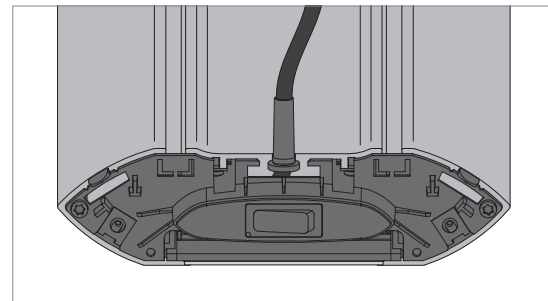

Fig. 2: Positioning the grommet.
- ▶ Guide the connecting cable through the cable bushing and slide the grommet into the cable bushing, see Fig. 2.